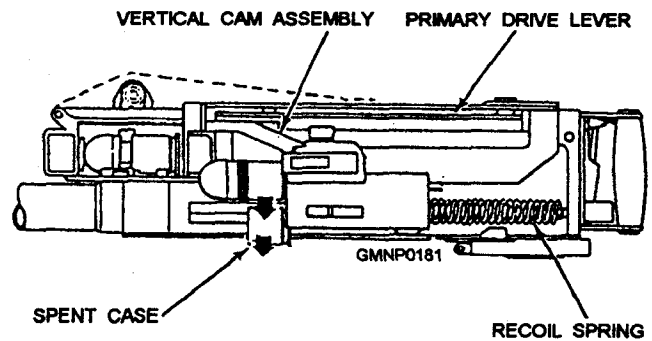

Figure 3-107.—Mk 19 Mod 3 machine gun recoil and ejecting sequence.
**RECOIL/EJECTING.**— As a round is fired, recoil pressure from the burning propellant acts to force the bolt rearward (fig. 3-107). As the bolt moves rearward,